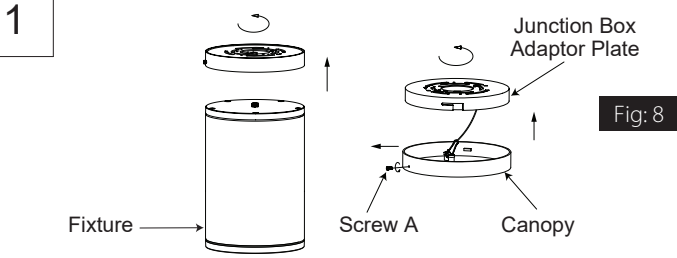

Fig: 8
1. Unscrew Junction Box Adaptor Plate and Canopy off the Fixture counterclockwise. Remove Screw A from Canopy and separate Junction Box Adaptor Plate and Canopy. (Fig. 8)